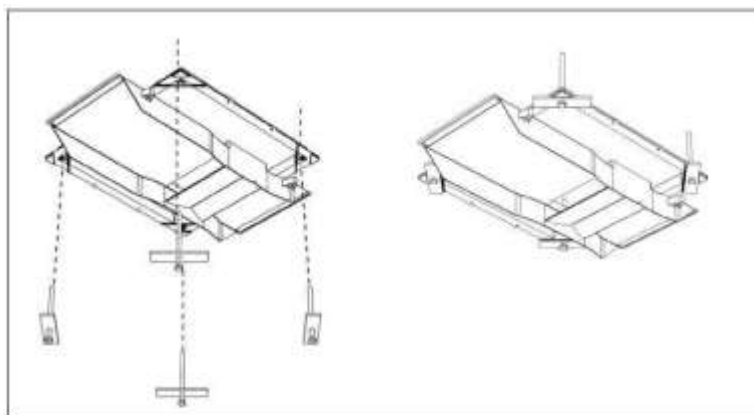

Fig 9: Insert the four M8 bolts and hold down bars into the corners of the brace.
- Thread a hold down bar onto the M8 bolt and push the bolt almost all the way into the hole in each corner of the brace (Fig 9)